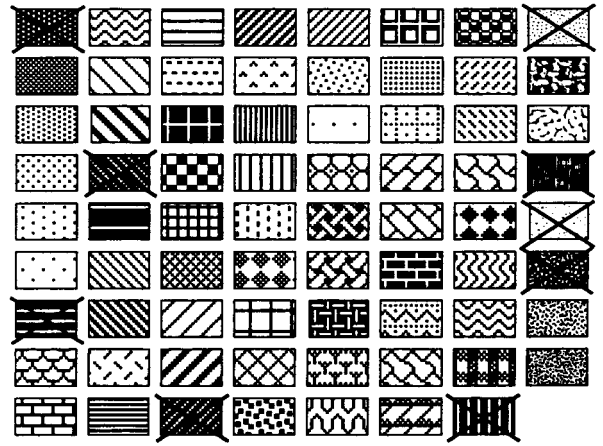

Figure 1. Fill Patterns available in Freehand and Canvas for Macintosh. Please do not use patterns that are crossed out in above example.
- If possible, use patterns (Fig. 1) instead of dot fill patterns. When fine or smooth fills are scanned, mottled patterns often result.